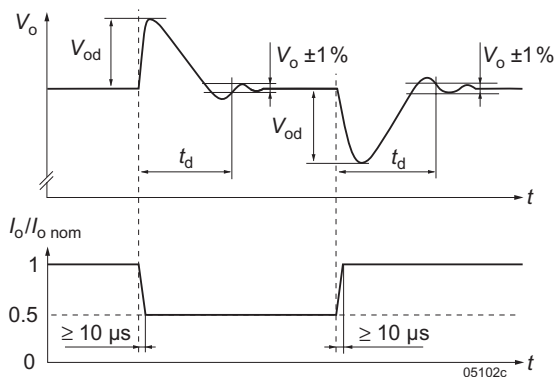

Fig. 13
² See *Dynamic load regulation (fig. 13)*
- ⁴ See *Dynamic load regulation* (fig. 13)